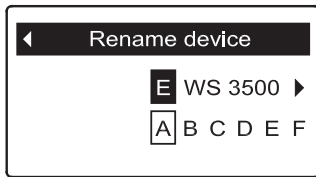

FIG. 126
4. Press the SELECT (O) button to display the Rename device screen (See Figure 126).